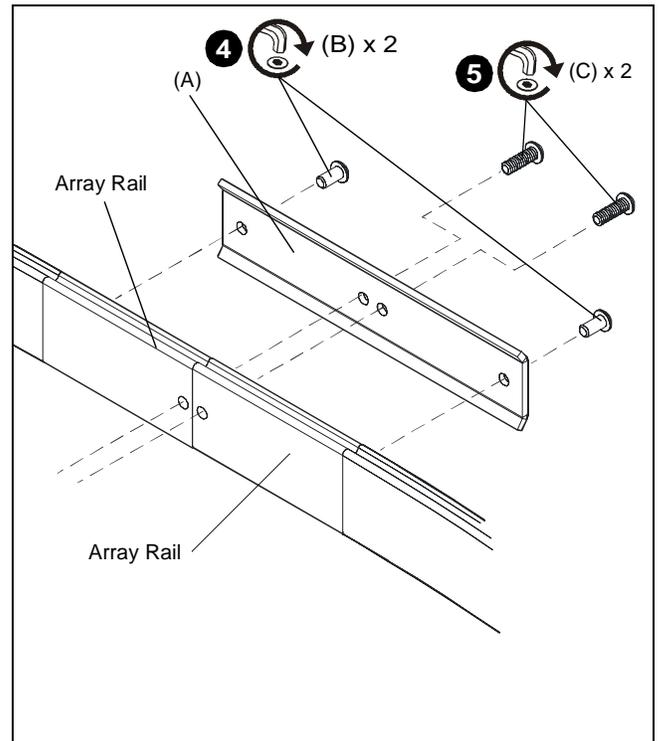

Figure 3
3. Place connecting bracket (A) against rails aligning holes in connector bracket with square nuts installed during step 1. (See Figure 3)
4. Secure connector bracket outer mounting holes to array rails using two 1/4-20 x 1/2" button head cap screws (B) making sure each screw threads into a square nut (D). (See Figure 3)
5. Secure connector bracket inner mounting holes to array rails using two 1/4-20 x 3/4" button head cap screw (C) making sure each screw threads into a square nut (D) and through hole in array rail. (See Figure 3)